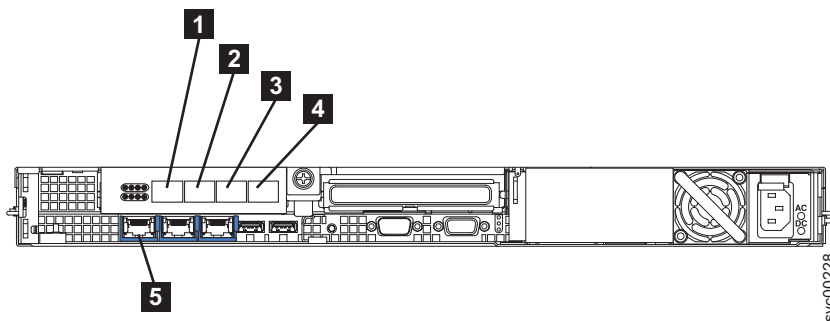

Figure 43. SAN Volume Controller 2145-8G4 connectors on the rear panel
1. Connect the Ethernet cable to Ethernet port 1 **5** in Figure 43.